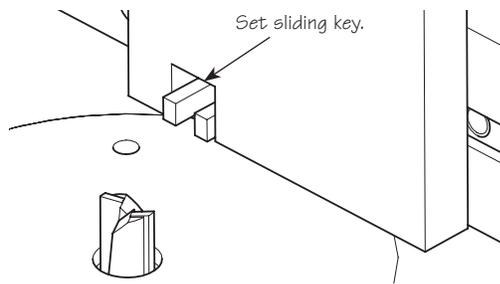

Figure 22: Set sliding key to fit first cut.
6. Advance the groove just cut onto the keys. If you are making fingers 1/4" (6mm) or wider, slide the test piece so the side wall of the groove makes contact with the edge of the fixed key, as shown in **Figure 22**. Adjust the sliding key so that the groove slides snugly over both keys. Lock the sliding key in this position.